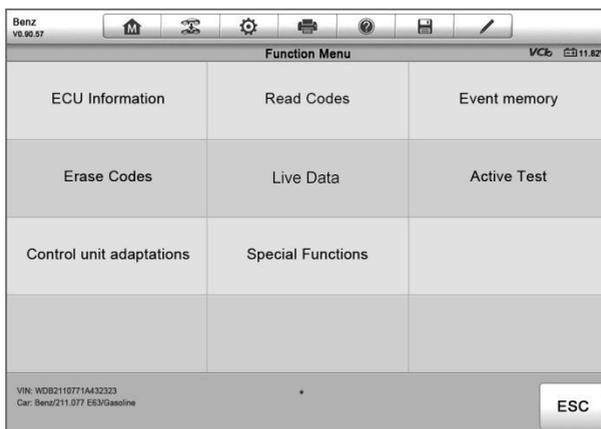

Figure 4-8 Sample Function Menu Screen
- Tap the > button to the right of the system item, on which you want to perform further diagnosis and other test activities. A Function Menu screen (*Figure 4-8*) shall then display.